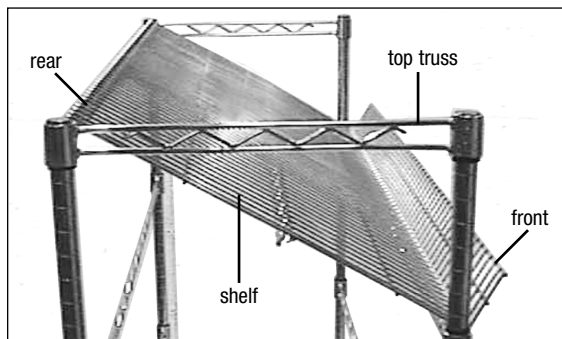

figure 5
- Rest front of shelf on front of bottom truss. Shelf should be approximately at a 30° angle, as shown in *figure 5*.
*Note: Downturn of topmost shelf should hook over top truss, as shown in *figure 5*.*